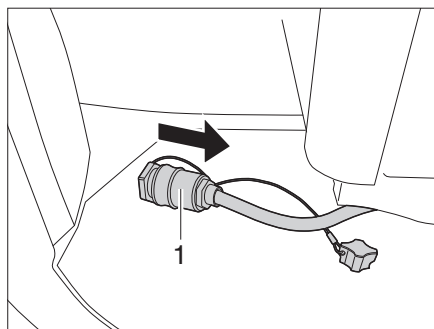

Fig. 54 Disconnecting the electrical connection
- Disconnect the electric power connection (Fig. 54,1).